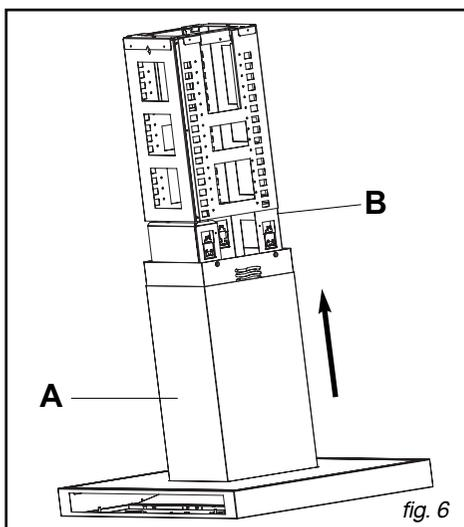
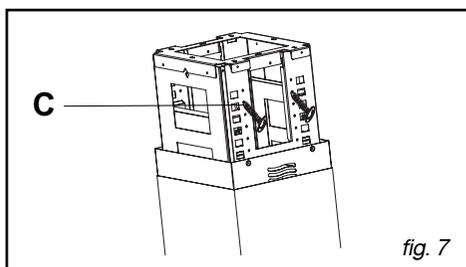

fig. 6
fig. 7
– Fit the ventilation shafts (fig.6-A), taking care to position them as follows if the hood is in recycling mode, the vents must be facing upwards so that they are visible.
– Press on the top part (B) to insert the hood in the ventilation shaft bracket.
– When the appliance is at the required height, **you must then fix it in place with the 4 screws supplied** (fig.7-C).